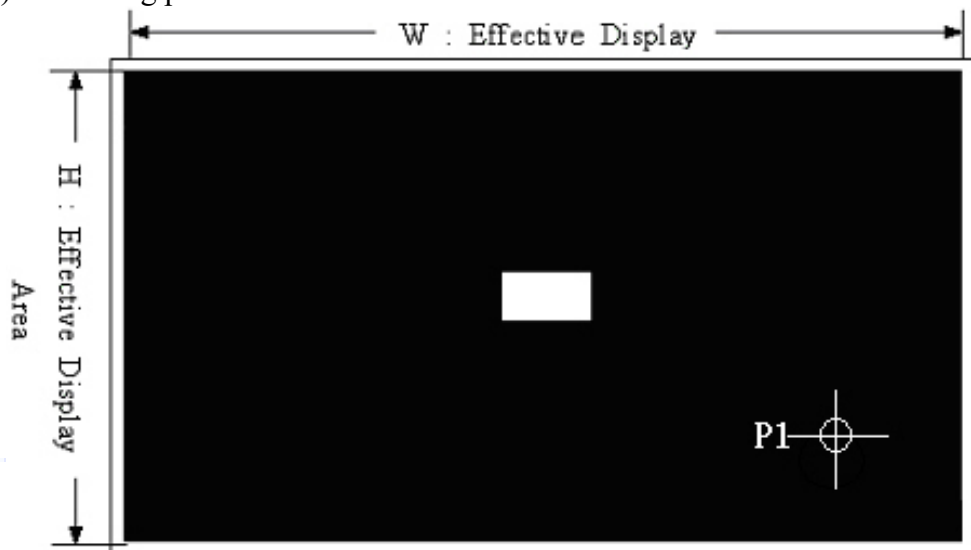

Figure-4. Measurement point
- * 2. The contrast ratio is calculated from the display luminance and the non-display luminance value. Display condition is shown in Figure-4.